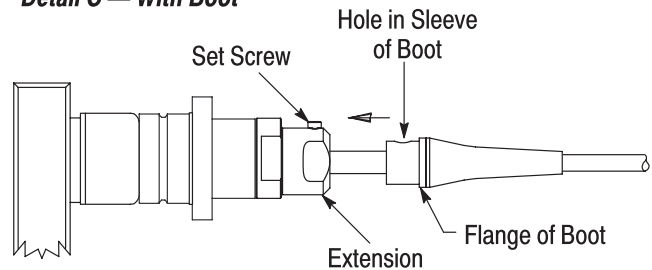

Figure 15
19. Slide the extension onto the housing, and finger-tighten. Using the 16-mm U-wrench, tighten the extension to a torque between 4 and 5 N-m. See Figure 15, Detail A.
If the boot is not included with the cable adapter kit, using the 2-mm hex wrench, thread the set screw into the hole in the extension until it bottoms (on the crimp sleeve). See Figure 15, Detail B.
If the boot is included with the cable adapter kit, using the 2-mm hex wrench, thread the set screw into the hole in the extension by approximately two turns. See Figure 15, Detail E. Then align the hole in the sleeve of the boot with the set screw, and slide the boot into the extension (but over the crimp sleeve) until the flange of the boot bottoms on the extension. Thread the set screw into the hole in the sleeve of the boot until it bottoms on the crimp sleeve. See Figure 15, Detail C.